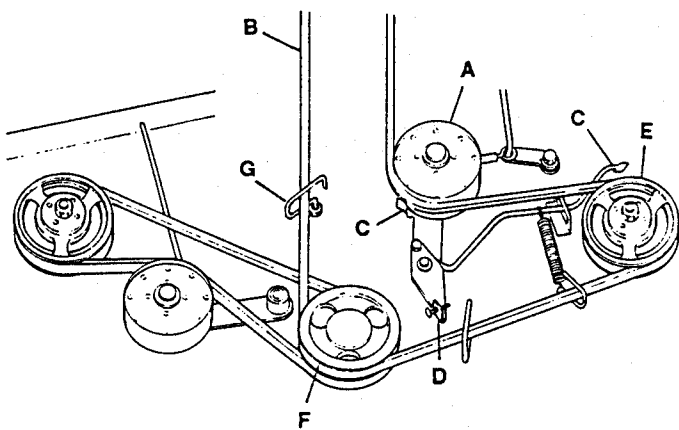

FIGURE 53
4. Pivot Brake/Belt Guide (C) away from left Spindle Pulley, while removing Cutter Deck Belt from left Spindle Pulley (F). See Figure 53.
5. Pull Brake Arm (D) outward off center Spindle Pulley, while removing Cutter Deck Belt from center Spindle Pulley (F). See Figure 53.
3. Pull Brake Arm (D) outward off Spindle Pulley, while installing Cutter Deck on center Spindle Pulley (F). See Figure 53.
4. Pivot Brake/Belt Guide (C) away from left Spindle Pulley, while installing Cutter Deck Belt on left Spindle Pulley. Make sure Cutter Deck Belt is placed in loop of Belt Guide (G), DO NOT allow Cutter Deck Belt to contact Belt Guides (G) when Belt is turning. See Figure 53.
3. Pull Brake Arm (D) outward off center Spindle Pulley, while removing Cutter Deck Belt from center Spindle Pulley (F). See Figure 53.
4. Pull Brake Arm (D) outward off center Spindle Pulley, while installing Cutter Deck Belt on center Spindle Pulley (F). See Figure 53.